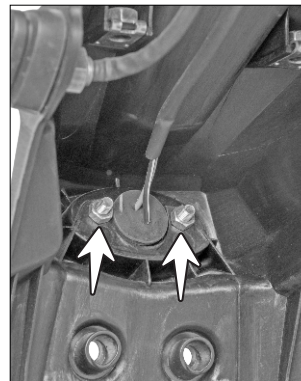

Fig. 5.61A
- Remove mounting nuts (M6 - 2 nos.) and take out the number plate illuminator as an assembly and pull out the rubber grommet. (Fig. 5.61A)